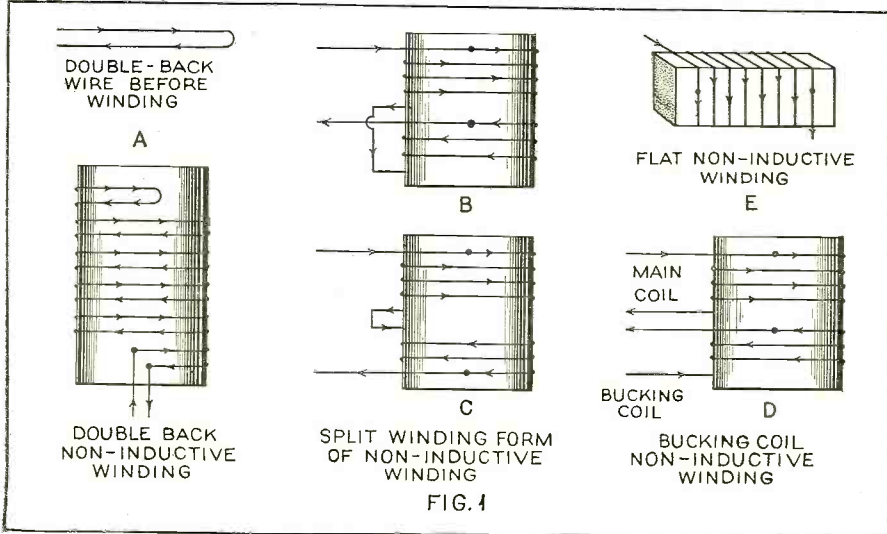

Figure 1. Several forms of non-inductive windings
Self-inductance in a coil may be neutralized by winding one-half of the coil in one direction and the remainder in the opposite direction as shown at (A) in Figure 1. The wire is really doubled back the length of wire to be used, at its middle point, and starting at this point, winding both halves at the same time as a single wire, until the ends or terminals are reached. The magnetic effects of the current flowing in one direction through half of the total turns is equal and opposite to that produced by the same current flowing in the opposite direction through the other half of the total turns. The magnetic fields thus neutralize each other, and hence no inductive effect is present. The winding is said to be non-inductive.
the total turns required, as shown at (B) and (C) of Figure 1, instead of in a single part. Then the proper ends of the coils are connected together as shown, so the current progresses from one end through the two coils in the opposite direction so the magnetic fields are neutralized. The coils need not be wound in the same direction. It is merely necessary to connect them properly so the current flows in the opposite direction in each. At (B) the coils are wound similarly. At (C) they are wound in opposite directions.
Sometimes the inductive effect of one coil is neutralized by current sent through a separate "bucking winding" of the proper number of turns, placed near it as shown at (C) of Figure 1. The bucking coil is so wound or connected that its magnetic effect equals and opposes that of the main field. In these methods, the two windings need not be in the same direction. The right-hand rule for the magnetic field of solenoids is employed for working out the proper current directions.
Another way of winding a coil that is almost non-inductive is to wind it flattened in shape on a thin flat cardboard or bakelite form about 1/8 inch thick. Such a coil has practically no inductance because the opposite sides of each turn of wire are so close together that the magnetic fields neutralize, since the current is flowing in the opposite direction in them as shown in (E) of Figure 1.